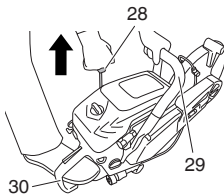

Fig. 26
6. Holding the tool in position with the left hand on the front handle (29) and the right foot pressing down on the rear handle (30), rapidly pull the starter knob (28). (Fig. 26)